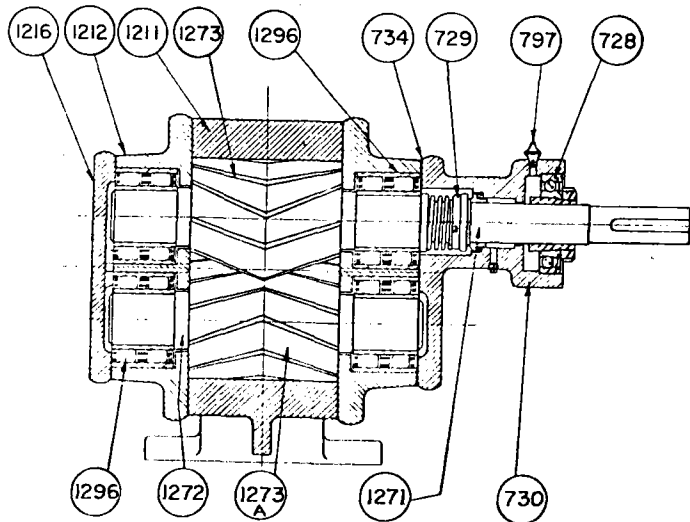

Fig. 15
**Disassembly:** Back off the lock nut on the adapter type bearing (728). (Fig. 15)